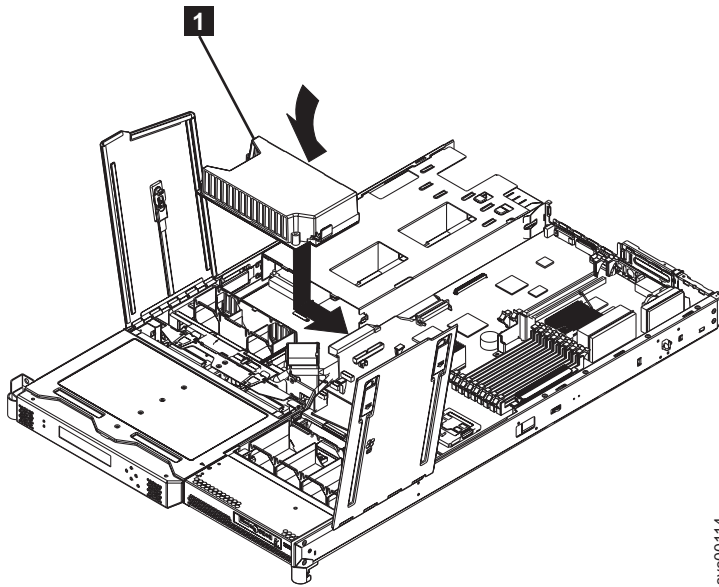

Figure 189. Replacing the power backplane
1. Lower the power backplane into position on the SAN Volume Controller 2145-8F2 or SAN Volume Controller 2145-8F4 and slide it to the right to connect it to the system board. See Figure 189.